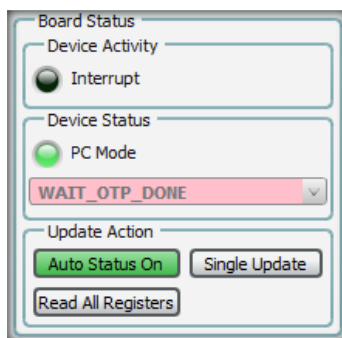

Figure 27: WAIT_OTP_DONE State
7. The DA9313 SmartCanvas **Board Status** control, see Figure 27, will show that the device is in **WAIT_OTP_DONE** state.